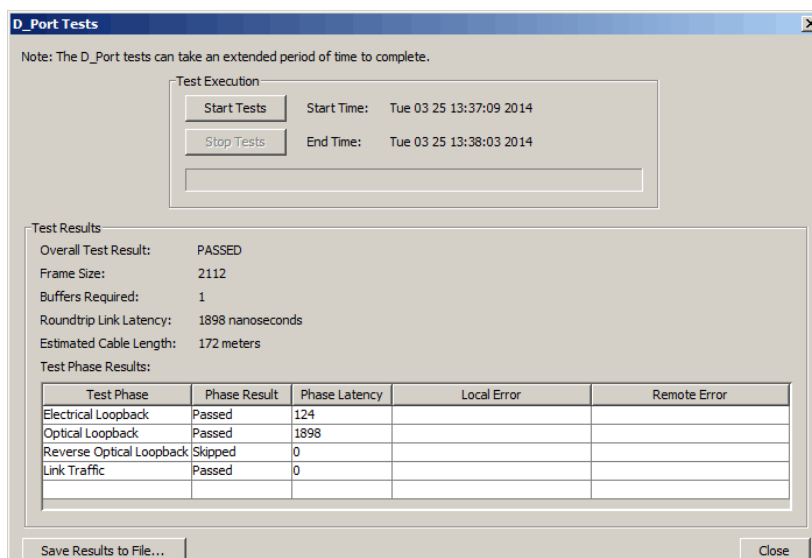

Figure 13-5 D\_Port Tests Window
2. Select the **Diagnostics** tab (Figure 13-1 on page 236) and click **D\_Port Tests...** The D\_Port Tests window appears (Figure 13-5 on page 240).